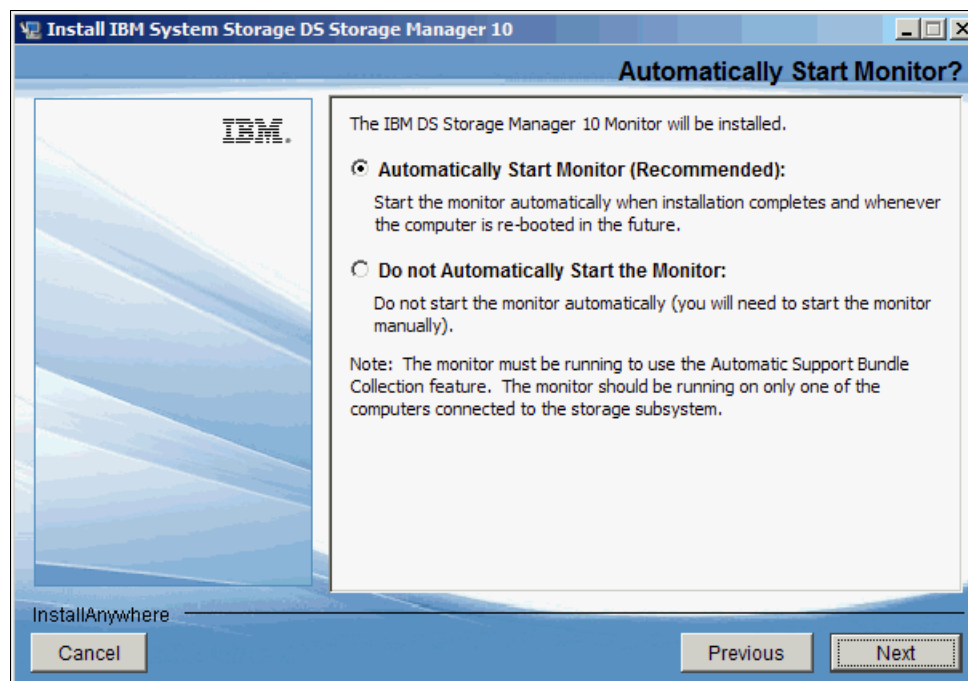

Figure 5-10 IBM DS Storage Manager Automatically Start Monitor
10. In Figure 5-10, you can select whether to automatically start the Storage Manager Monitor. Click the **Next** button.